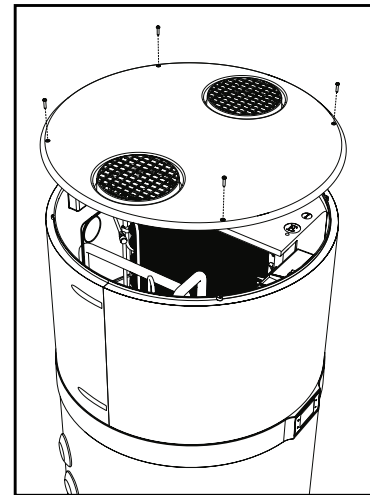

fig. 73- Top cover removal
- Remove the top cover by first undoing the locking screws (fig. 73).